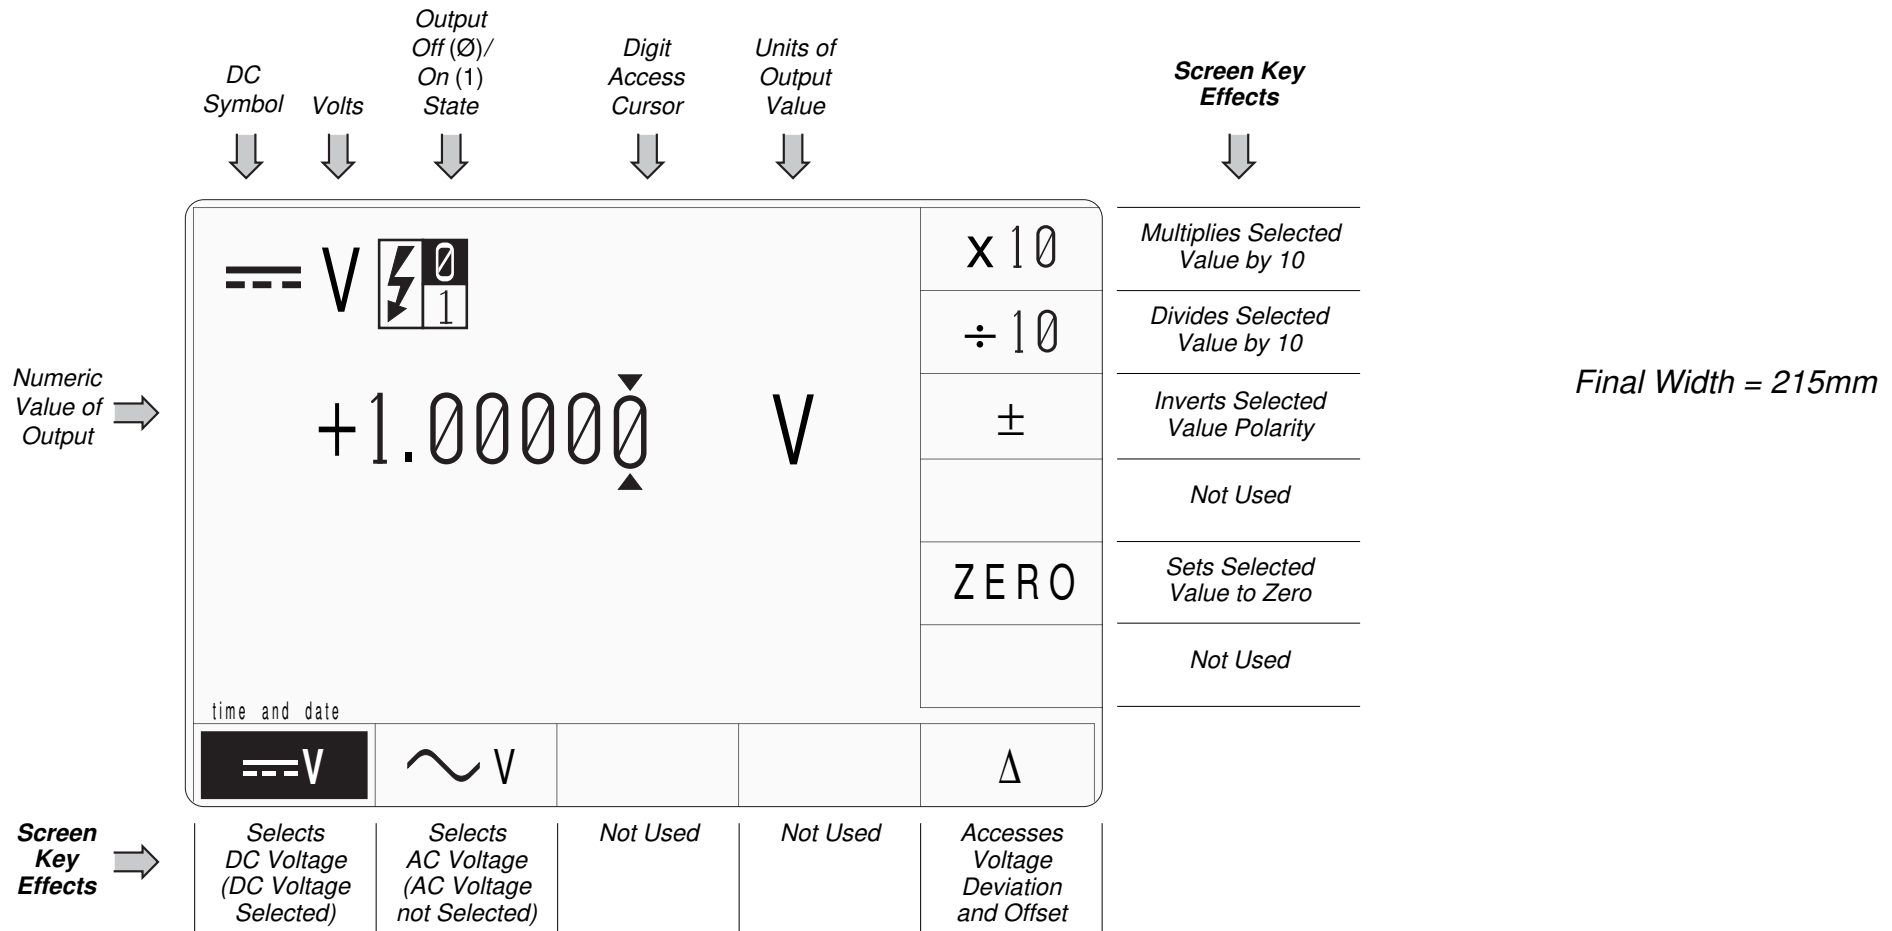

Fig. 3.4.1 DC Voltage Default Settings
Throughout the tutorials, you will see pointers (☞). Where these are found in the text, they identify instructions for you to follow, giving you manual practice. Arrows (➡) are used to indicate important points on diagrams etc. (see Fig. 3.4.1 opposite).
- ☞ Ensure that the 9100 is installed and switched on as detailed in Section 2. If, after selecting Manual mode, the display does not correspond to Fig. 3.4.1 below, press the **V** key in the top right corner of the front panel.
- ☞ Familiarize yourself with Fig. 3.4.1. This is the default version of the DC Voltage menu screen, which will appear when you enter DCV Function for the first time (unless the default has been changed in Config Mode).
As we can see from *Fig. 3.4.1*, the numeric value of the 9100 output (whether OUTPUT is OFF or ON) is displayed in large characters just above the center of the screen. In Digit Edit, access to each digit is provided by a pair of enclosing triangles, called the 'Digit Access Cursor' (or just 'Cursor'). The cursor can be seen in *Fig. 3.4.1*, accessing the least-significant digit of the numeric value.